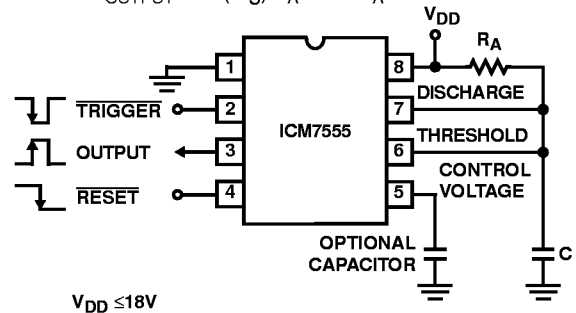

FIGURE 3. MONOSTABLE OPERATION
In this mode of operation, the timer functions as a one-shot, see Figure 3. Initially the external capacitor (C) is held discharged by a transistor inside the timer. Upon application of a negative $\overline{\text{TRIGGER}}$ pulse to pin 2, the internal flip-flop is set which releases the short circuit across the external capacitor and drives the OUTPUT high. The voltage across the capacitor now increases exponentially with a time constant $t = R_A C$. When the voltage across the capacitor equals $2/3 V_{DD}$, the comparator resets the flip-flop, which in turn discharges the capacitor rapidly and also drives the OUTPUT to its low state. $\overline{\text{TRIGGER}}$ must return to a high state before the OUTPUT can return to a low state.